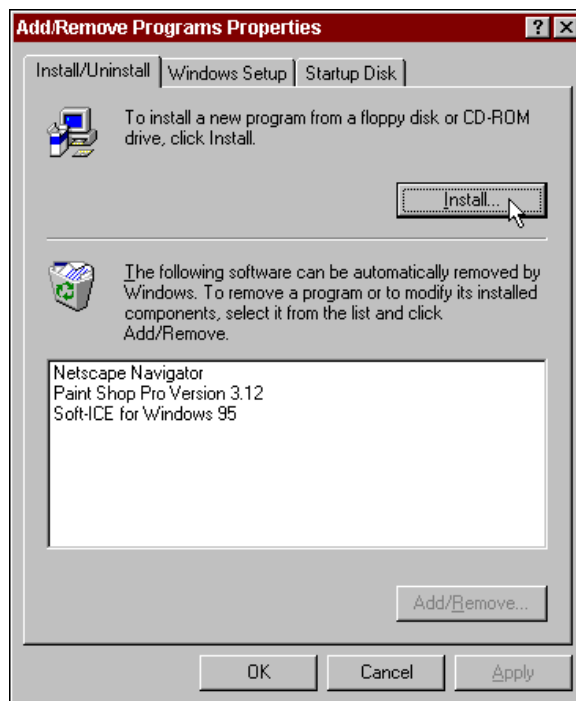

Figure 2-1. Add/Remove Programs Properties Dialog Box
2. Double-click on the **Add/Remove Programs** icon. A dialog box similar to the one shown in Figure 2-1 appears.